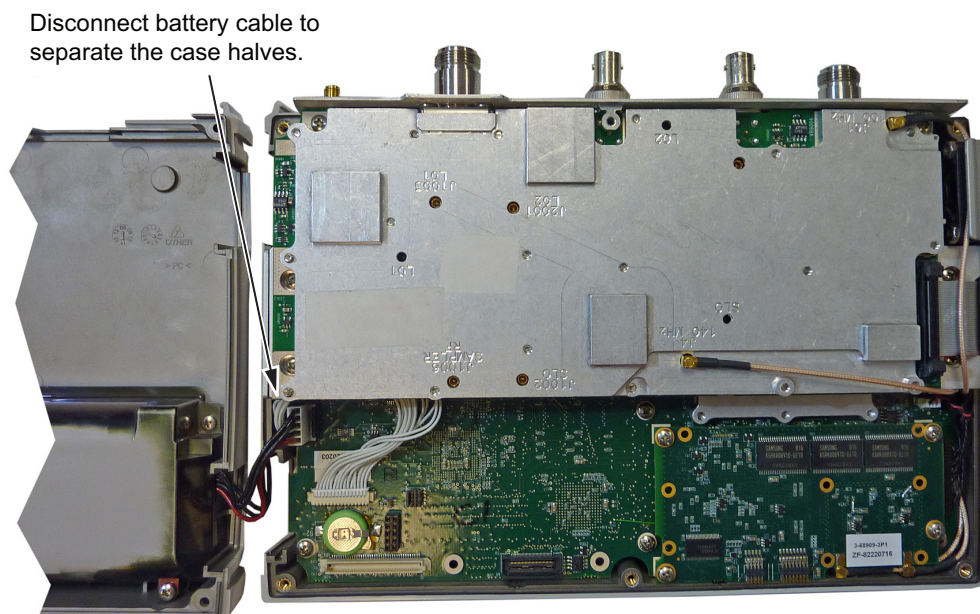

Figure 5-3. Spectrum Master Opened 180 Degrees
6. Lay the Spectrum Master flat and remove the battery connector cable between the two halves (Figure 5-3).